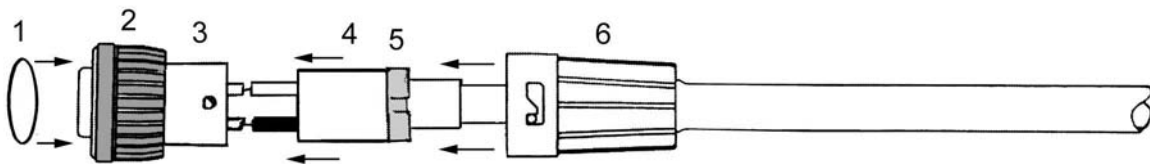

Figure 3: Proper Assembly of Connector onto Cable
10. Slide grommet with ring into backshell and twist lock backshell onto main connector body (**Figure 3**).
11. Slide O-ring (1) over contact end of the connector.